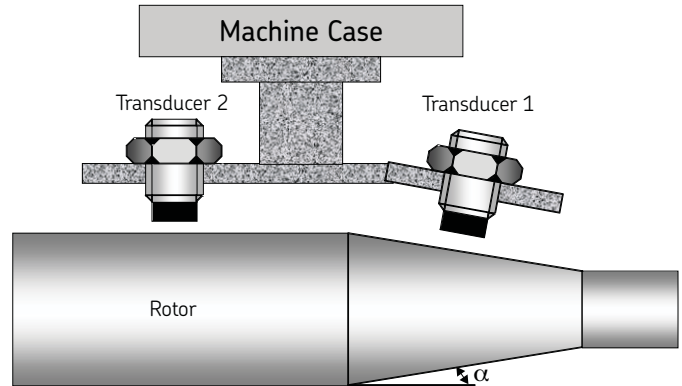

Figure 3
**Figure 3** illustrates single ramp differential expansion, which uses two transducers. Transducer 1 measures the axial and radial movement of the rotor. Transducer 2 measures only the radial motion.